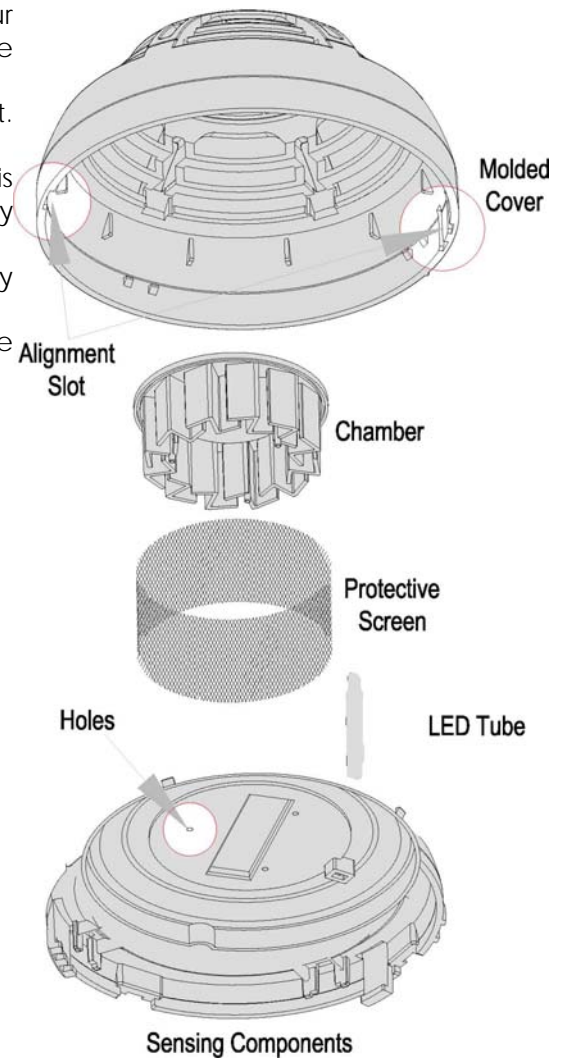

Figure 12: Exploded View
2. Remove the protective screen by pulling it straight out. (Figure 12).
4. Position the chamber and screen by aligning three tiny holes over the sensing component. (Figure 12).
5. Align the LED tube and tabs and gently pushing the cover until it locks into place. (Figure 12).